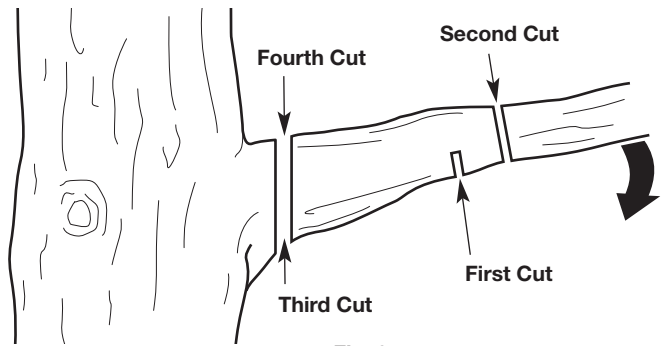

Fig. 34
1. Make the first cut approximately 6 inches (15 cm) from the tree trunk. Cut upward, from the underside of the limb. Use the top of the guide bar to make this cut. Cut a third of the way through the diameter of the limb (Fig. 34).
2. Make the second cut 2 - 4 inches (5 - 10 cm) farther out on the limb. Cut downward, from the top of the limb. Use the bottom of the guide bar to make this cut. Cut completely through the limb (Fig. 34).
3. Make the third cut as close to the tree trunk as possible. Cut upward, from the underside of the limb stub. Use the top of the guide bar to make this cut. Cut a third of the way through the diameter of the limb (Fig. 34).
4. Make the fourth cut directly above the third cut. Cut downward, from the top of the limb stub. Use the bottom of the guide bar to make this cut. Cut completely through the limb stub to meet the third cut (Fig. 34). This will remove the limb stub.